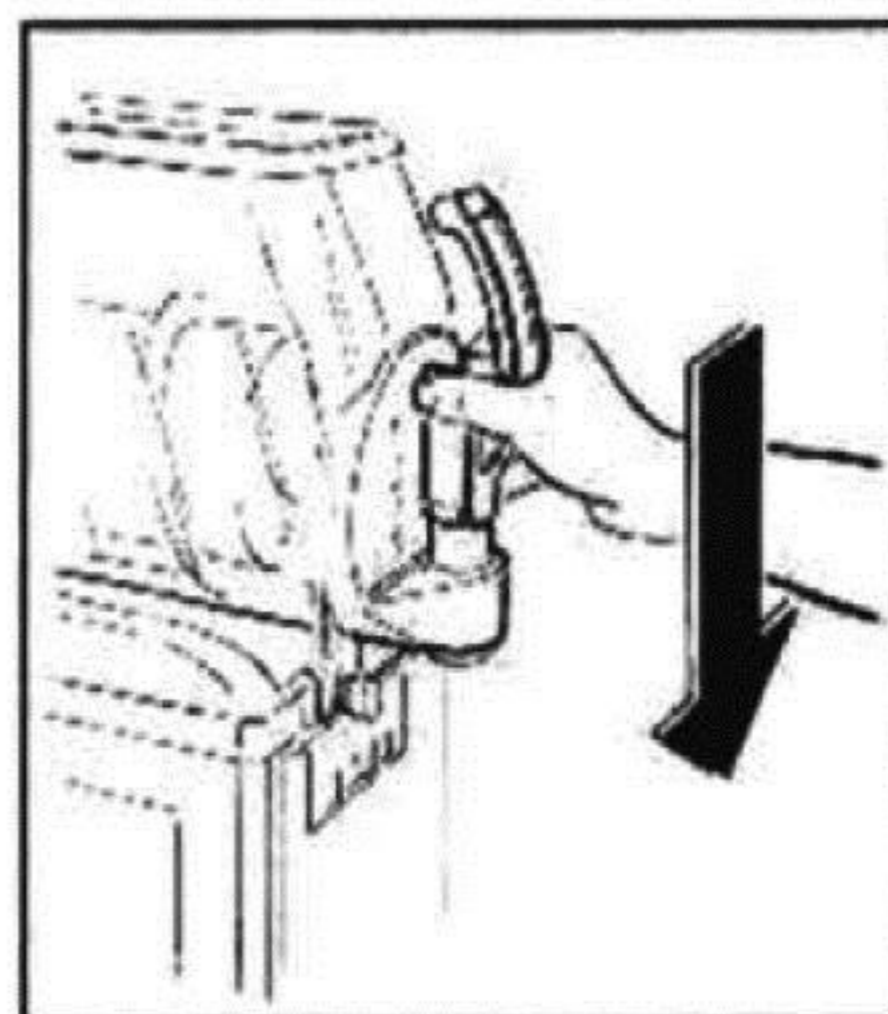

fig.40
- Re-insert the tap (fig.40) spreading Vaseline on the o-rings to facilitate sliding the tap in its seat until completely inserted.